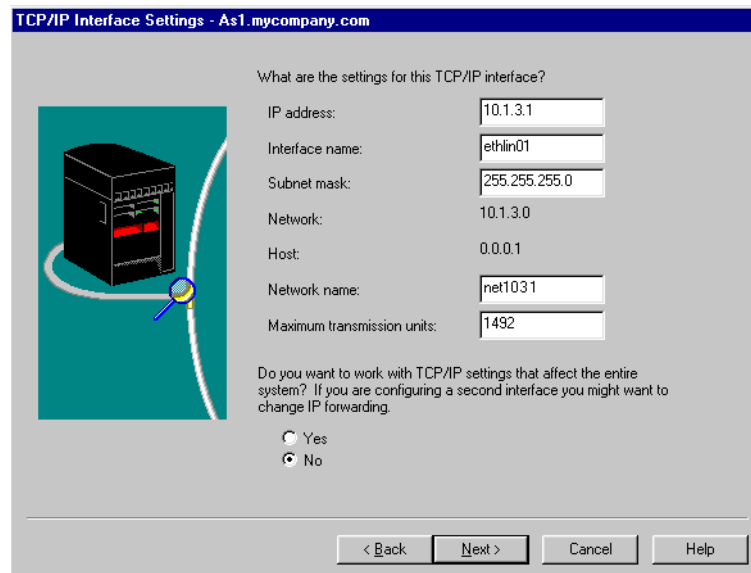

Figure 315. TCP/IP Interface Settings
7. Select the speed at which your LAN is running. Select the protocol standards that you want to support on this adapter. Click **Next**. The TCP/IP Interface Settings window appears (Figure 315).
8. The TCP/IP Interface Settings window (Figure 315) allows you to assign an IP address to your network adapter. Enter the IP address, the Interface name (we used line name), and the Subnet mask for this IP address.